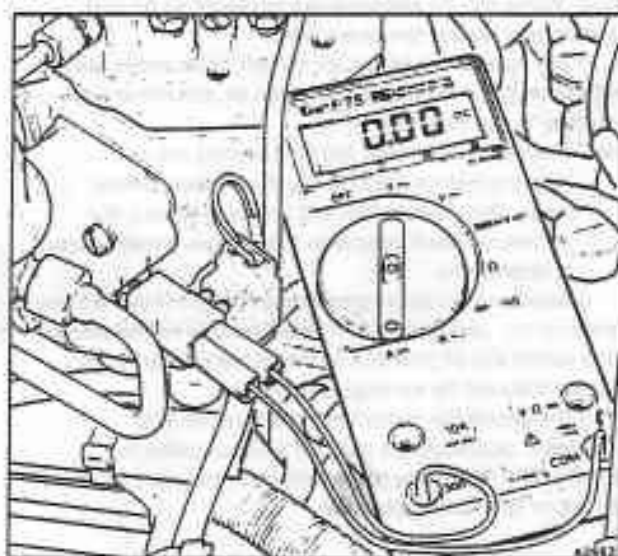

Fig. B4-38 Multi-meter connected in 'series' with the EHA
2. Connect a digital multi-meter in 'series' with the electro-hydraulic actuator (EHA), using the adapter RH 9893 (see fig. B4-38).